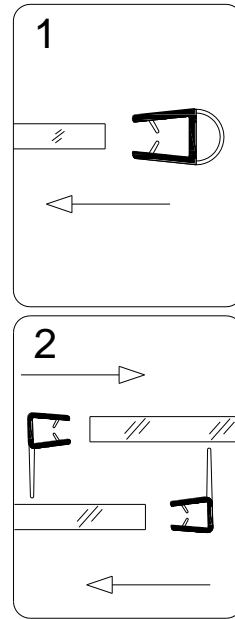

Fig. 14
10. Push the **Door edge strip (13)** on the sliding door and also push the **Anti-water strip (17)** on the stationary glass and the sliding door. See fig. 14 for details.